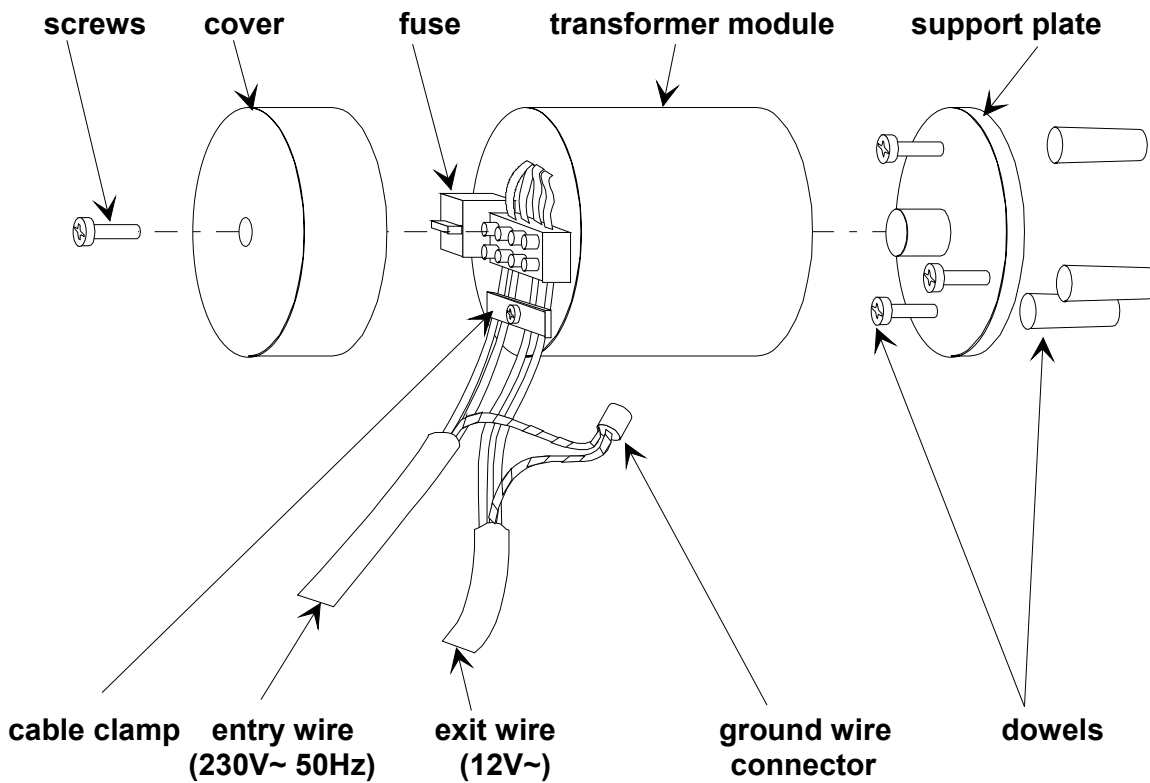

Figure 3. TRN-01 Transformer
2. Attach the entry wire ($230V_{AC}$) to the entry connector (next to the fuse) and the output wire ($12V_{AC}$) to the other connector (see Figure 3). The maximum diameter allowed is $2.5mm^2$ for both entry wires (230V) and output wires (12V).